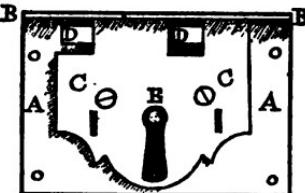

FIG. 41.
Fig. 41 is a sketch of a box-lock. There are five parts in this lock which we must know by name: 1, the main plate AA; 2, the top plate BB, which is a continuation of the back plate, bent at right angles (seen here edgewise); 3, the box CC, which in good locks is screwed on to the main
**Locks out of order.**—It is generally quite easy to take a lock asunder, whenever it becomes necessary to examine the interior. You have only to look at the outside of the lock and you will observe the screws that bind the box, or body, to the main plate; there are two such binding screws in the lock, Fig. 41. When these are withdrawn (which will require firm pressure of the turnscrew) the front plate CC of the box can be taken off. Now use the key, turning it both ways several times, and the machinery will be quite plain, and the fault or fracture, if there be one, will likely appear. It is not quite so easy to restore the removed plate, and drive home the screws; but it is easy enough. Very cheap locks are put together with rivets instead of screws, and it is more difficult to take them asunder.